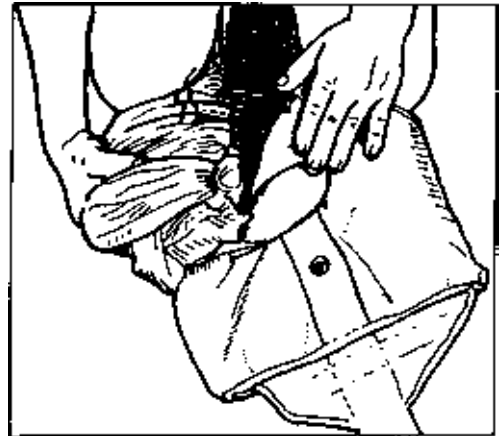
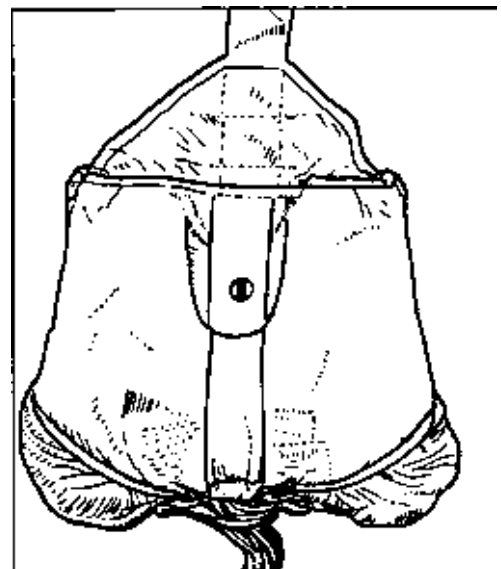

Figure 7
Figure 8
Step 13 Take the molar and insert it directly into the deployment bag so that the ears are on each side of the molar depression. *Figure 7* **Remove the compression strap at this time.** Lock the mouth of the bag with the two locking stows. *Figure 8*